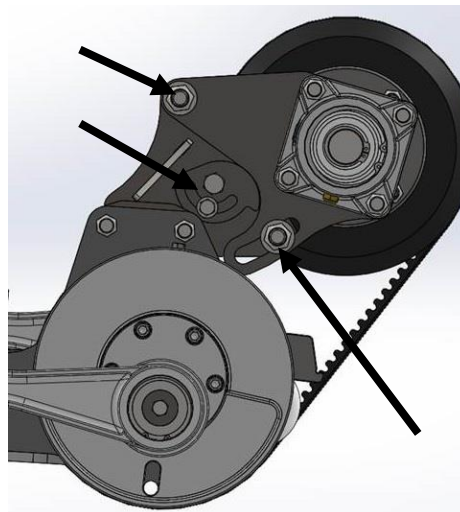

Figure 34
3. Loosen the large lock nuts and cam lock bolt but do not remove. Figure 34